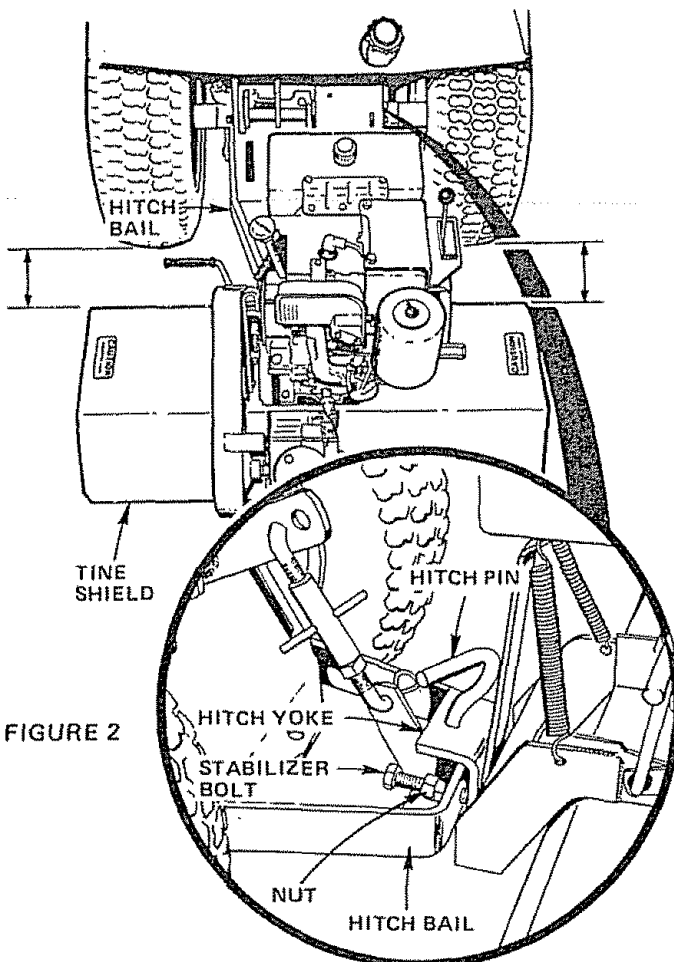

FIGURE 2
5. Adjust Stabilizer Bolts so that ends are about flush with rear of Hitch Bail (Fig. 2 - Inset). Leave Nuts loose.
6. Lower Hitch Assembly and slide Hitch Yoke of Tiller (Fig. 2 - Inset) over Hitch Tube of Sleeve Hitch so that the Hitch Pin Holes line up.
7. Insert Hitch Pin until it extends from bottom of Hitch Yoke (Fig. 2 - Inset). Insert Retainer Spring into Hitch Pin.
8. Tighten both Stabilizer Bolts against the Hitch Yoke until there is no looseness at the hitch point. (The Frame Assembly does not swing sideways relative to the Hitch Bail (Fig. 2). Be sure the Frame Assembly is perpendicular (square) to the centerline (direction of travel) of the Tractor. This can be determined by measuring the distance between the edge of Tine Shield (Fig. 2) and the back of the rear tires. This distance should be the same on the R.H. and L.H. sides within 1/2 inch. Securely tighten the Nuts on the Stabilizer Bolts.
NOTE: THE STABILIZER BOLTS SHOULD BE LOOSENED BEFORE REMOVING THE TILLER FROM THE TRACTOR. THIS WILL MAKE IT EASIER TO REMOVE THE HITCH PIN AND TO LINE UP HITCH PIN HOLES WHEN INSTALLING ANOTHER ATTACHMENT. IF TRACTOR IS TO BE USED WITHOUT A REAR ATTACHMENT, THE STABILIZER BOLTS SHOULD BE SECURED BY TIGHTENING THE NUTS (FIG. 2 - INSET).